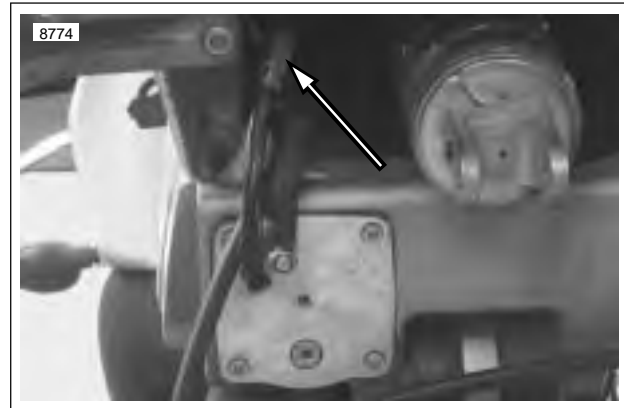

Figure 4-98. Fuel Pump connector [86] (swingarm removed for illustration)
- a. See Figure 4-98. Disconnect the 4-place fuel pump connector [86]. Connector is located on the left side, above the fuel pump.